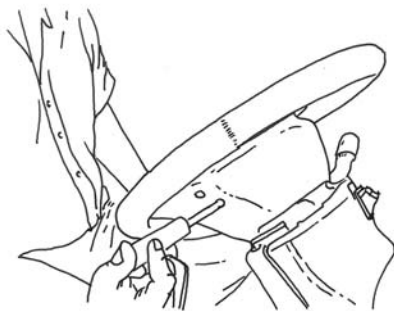

Figure 66 Releasing Front Cover With Tool
1. To release front cover, insert removal tool (Figure 66) into aperture. Phillips head screwdriver may be used.